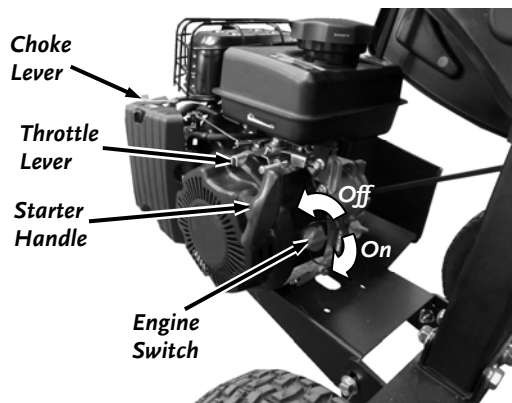

Figure 14
2. Move the choke control lever to the CHOKE position to the right (should only be needed if the engine is cold) (**Figure 14**).
1. Move the Throttle Lever to Idle "Turtle" position ((**Figure 14**)).